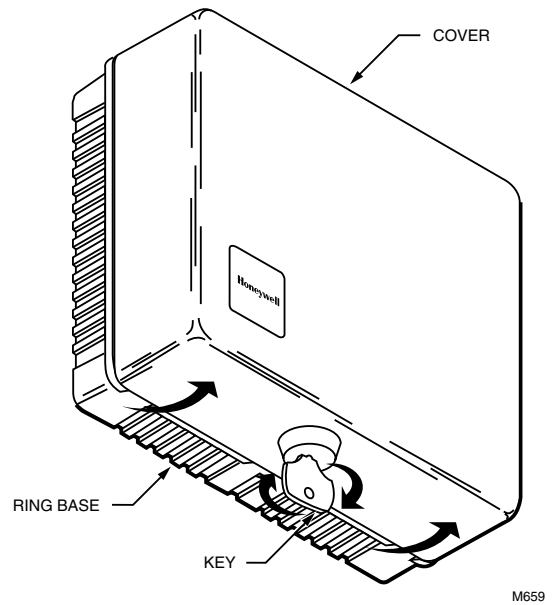

Fig. 13. Remove thermostat guard cover (TG510, TG511, TG512 shown).
- 2 Remove the guard cover by swinging it out away from the ring base and lifting it off. See Fig. 13.